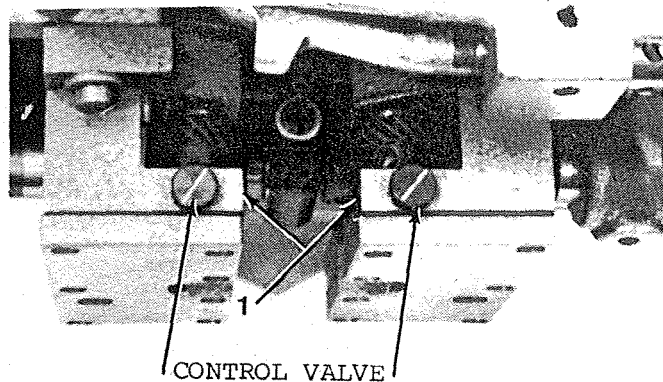

FIG. 6
- 1) Tip machine and loosen control valve set screw 1, shown in Fig. 6.
- 2) Turn control valve screw shown in Fig. 6 clockwise for more oil; counter-clockwise for less oil. Re-tighten control valve set screw.